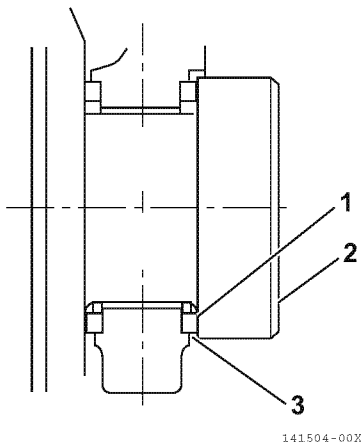

Figure 6-66
- **Method B:** Use a feeler gauge (3, **Figure 6-66**) to measure the clearance (3, **Figure 6-66**) between the thrust bearing (1, **Figure 6-66**) and crankshaft (2, **Figure 6-66**). Record the measurement. See *Thrust Bearing* on page 6-10 for the service limit.